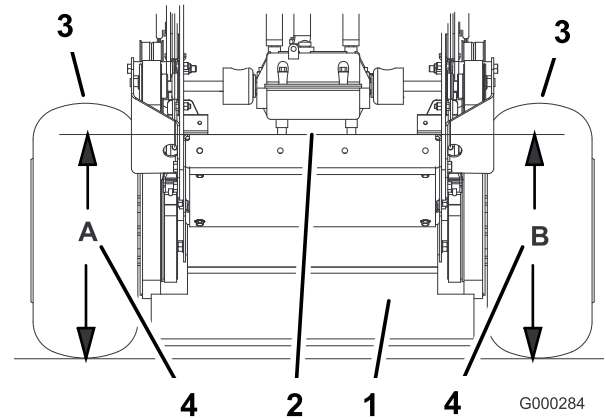

Figure 53
4. Measure engine deck height at location **A** (Figure 53).
5. Measure engine deck height at location **B** (Figure 53).